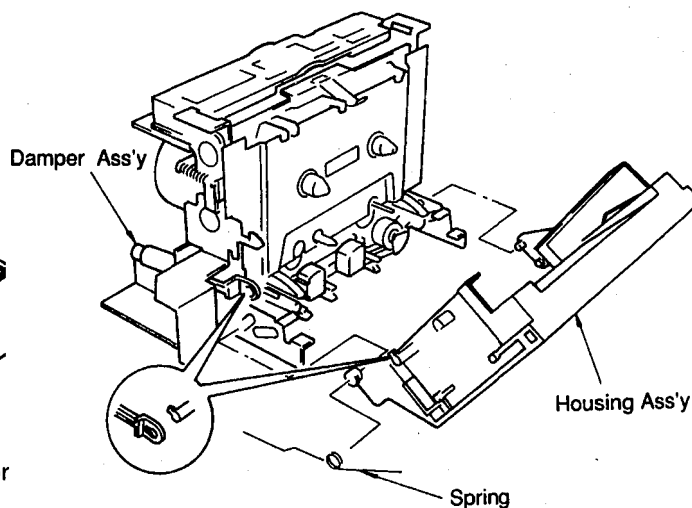

Fig. 4
- Detach the Spring in Fig. 4.